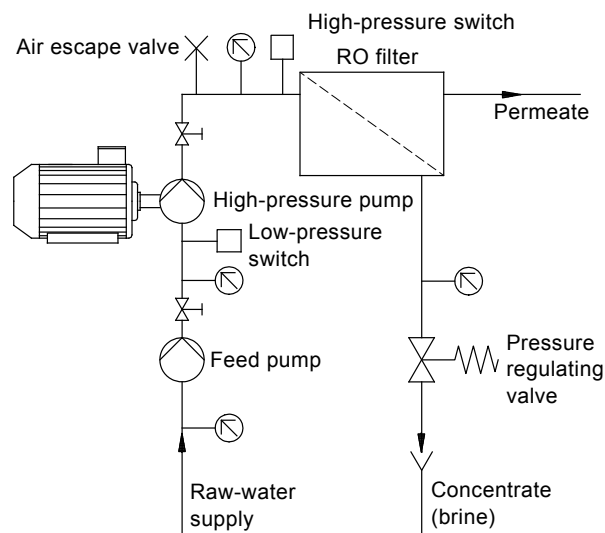

Fig. 11 BME booster system
6. Pipework according to the diagrams in figs 11 and 12.